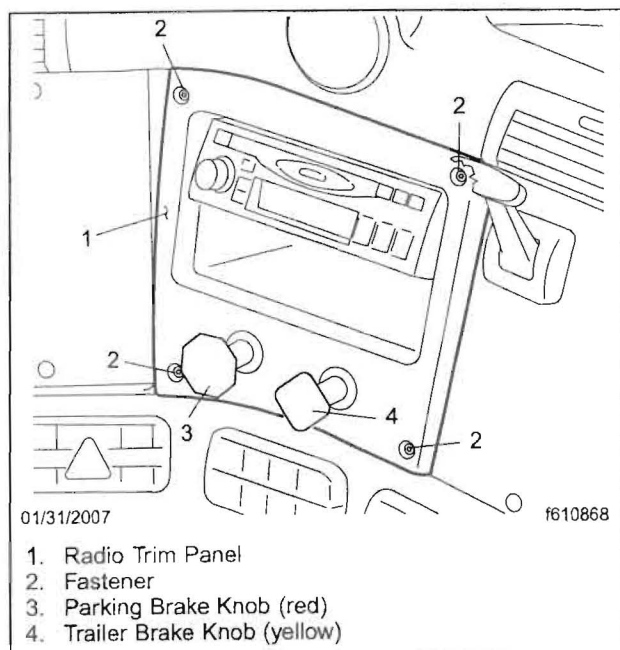

Fig. 1, Radio Trim Panel Removal
3. Remove the fasteners from the radio trim panel and remove the panel. See Fig. 1.